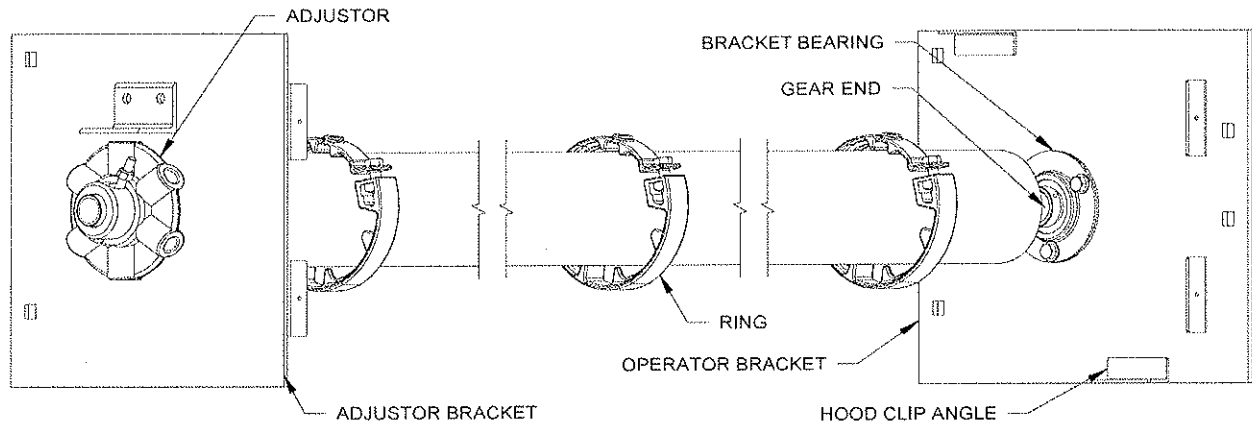

Figure 6.4 – Brackets and Barrel Prior to Installation
9. Locate the brackets. Determine the "operator" and "adjustor" brackets by referring to **Figure 6.4**. The "operator" bracket may vary significantly based on the operation of the door. The "adjustor" bracket will contain a label with spring adjustment instructions.